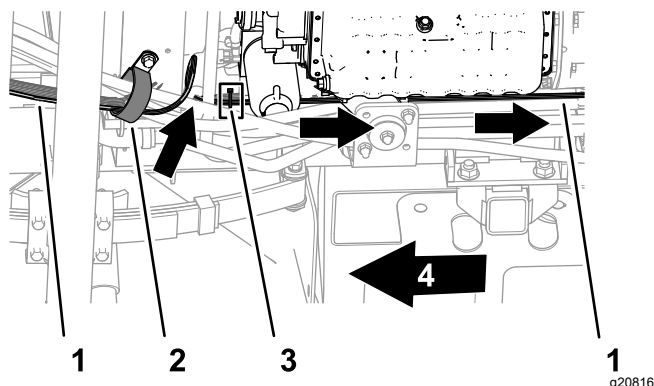

Figure 41
1. Route the wire harness branches and trunk up and along the rear wire harness of the machine and between the frame of the machine and the engine (Figure 41).
2. Secure the wire harness of the kit to the rear wire harness of the machine with a cable tie as shown in Figure 41.